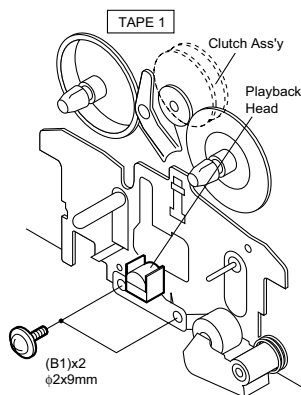

Figure 2
1.2. How to remove the playback head (TAPE 1) (See Fig. 2)